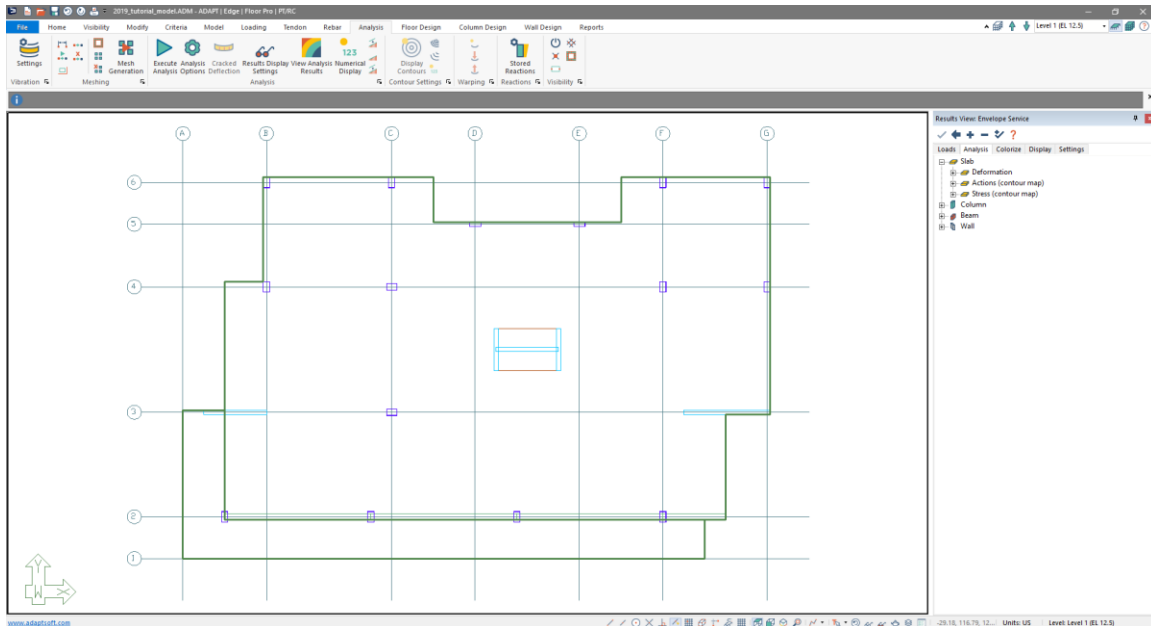

Figure 9-107
- The users should now see the model as shown in **FIGURE 9-107**.